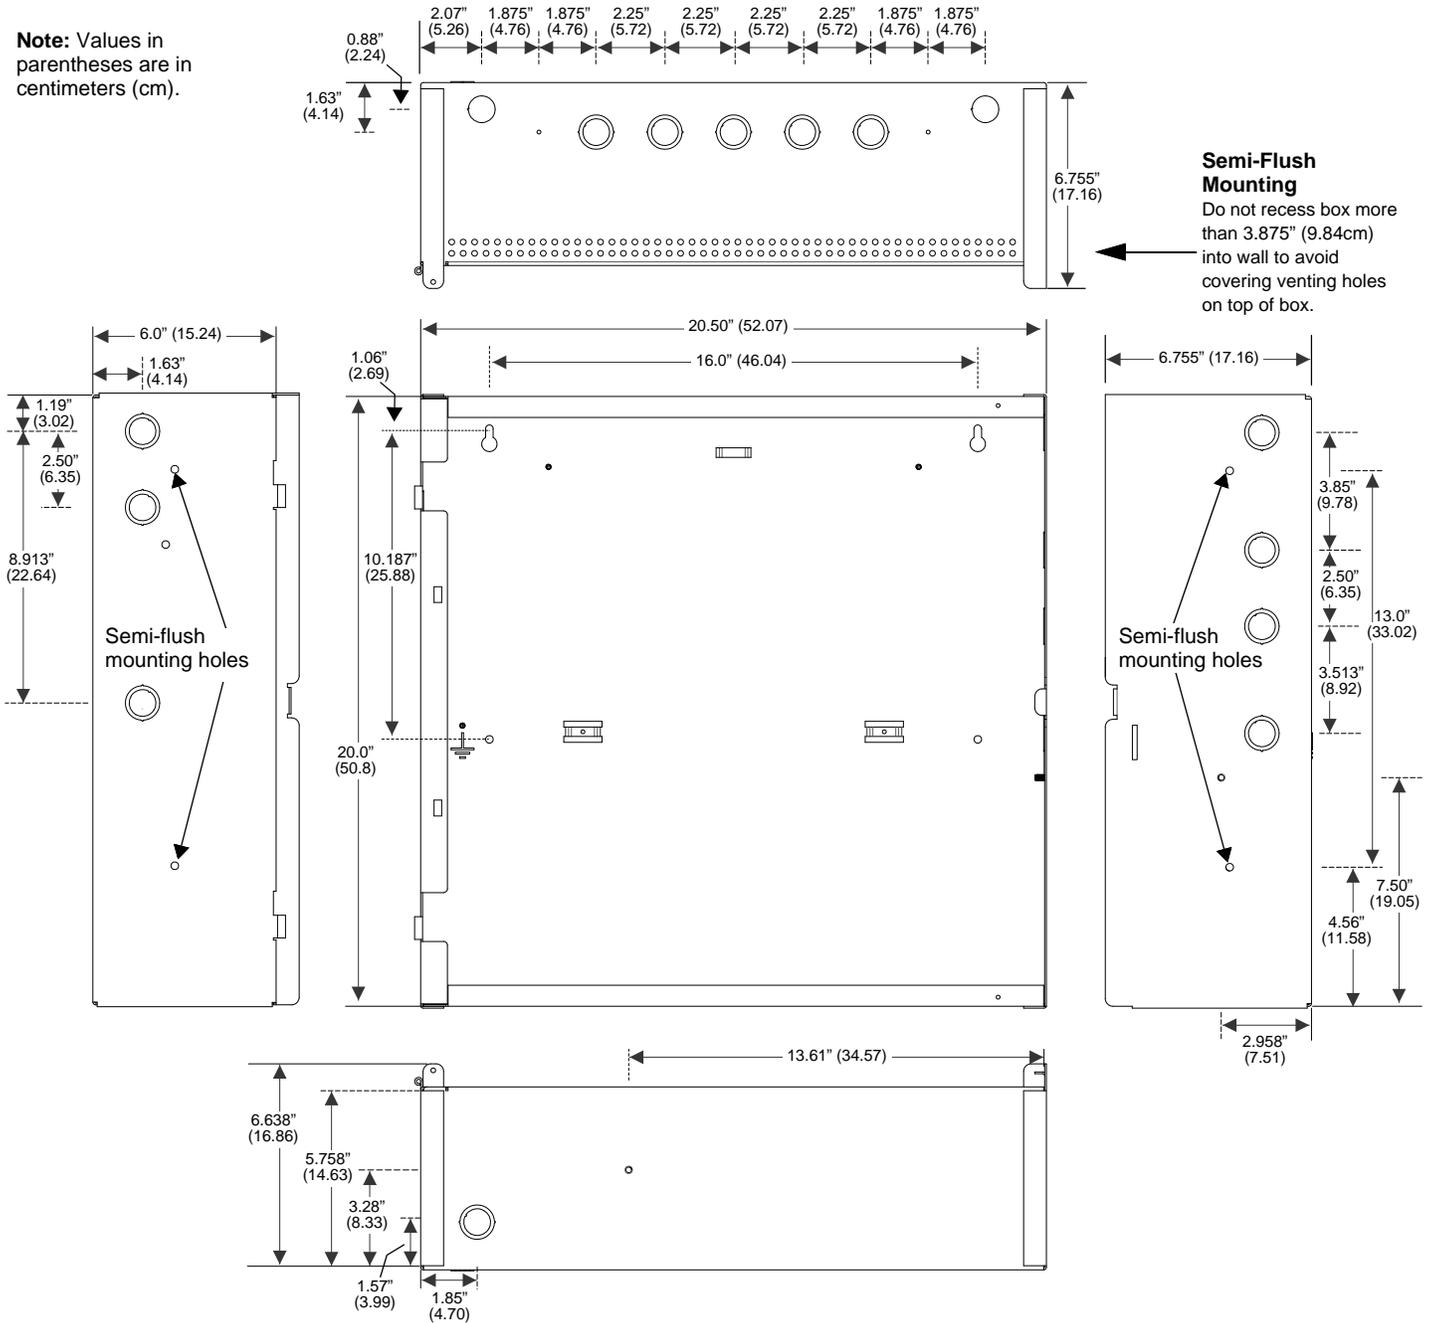

Figure 2.2 ES-1000X Cabinet Mounting
1. Mark and pre-drill holes in the wall for the top keyhole mounting bolts using the dimensions illustrated in Figure 2.2 on page 22.